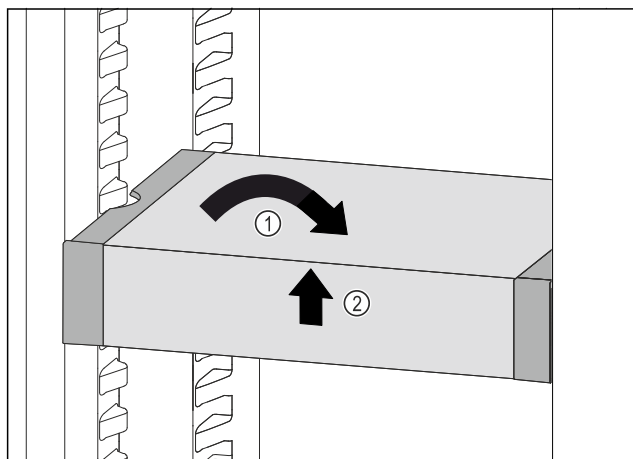

Fig. 99
- Set VarioSafe straight. Fig. 99 (1)
- Lift VarioSafe at the front. Fig. 99 (2)